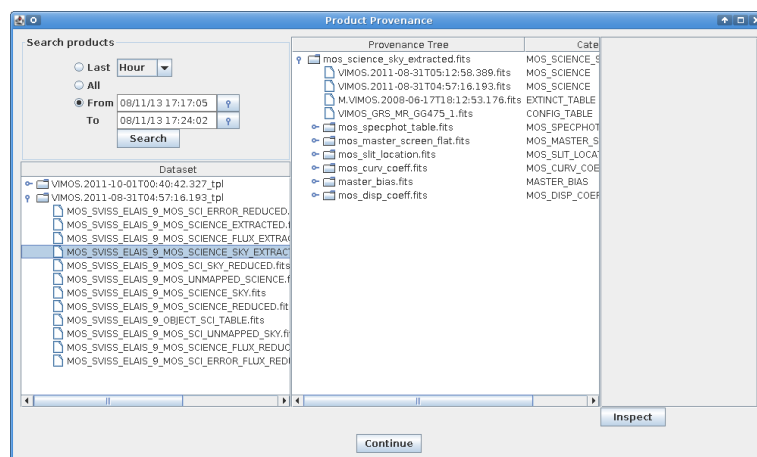

Figure 4.5: The Provenance Explorer shows all datasets reduced in previous executions together with the full reduction chain for all the pipeline products.
9. When the reduction of the current DataSet finishes, a pop-up window called *Product Explorer* will appear showing the datasets which have been so far reduced together with the list of final products. This actor allows the user to inspect the final data products, as well as to search and inspect the input data used to create any of the products of the workflow. Figure 4.5 shows the Product Explorer window.